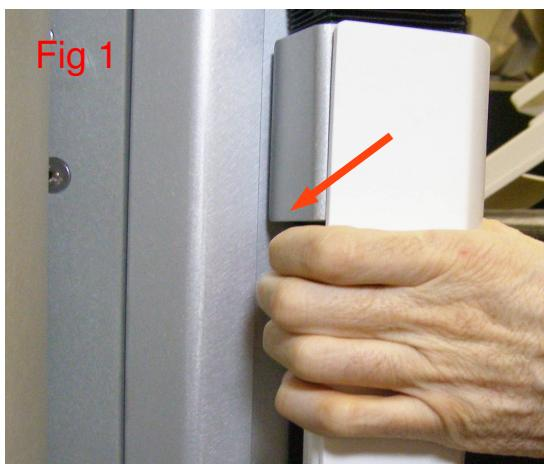

Fig 1
1. Clasp the Panel on each side below the Aluminum boss. (Fig 1)